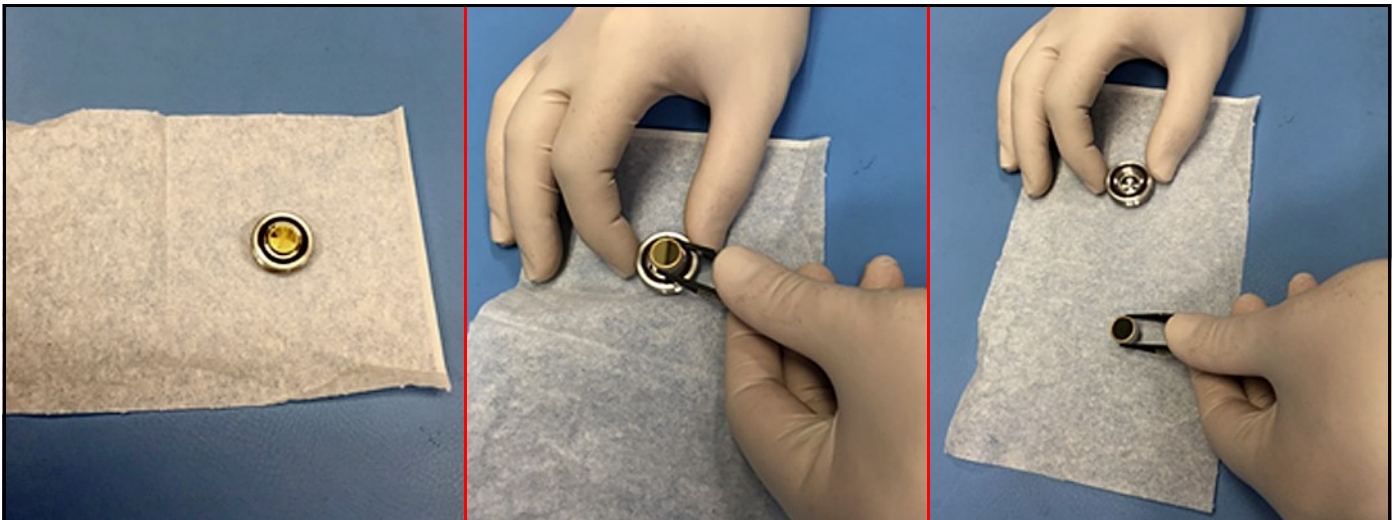

Figure 55: Inspecting the Mirror Assembly
8. Gently place the extracted mirror assembly on a clean lens tissue. Using a pair of plastic-tipped tweezers gently extract the 0.5" diameter mirror from the end cap, taking care not to touch, squeeze or nick the two O-rings in the end cap assembly (see *Figure 55* below).